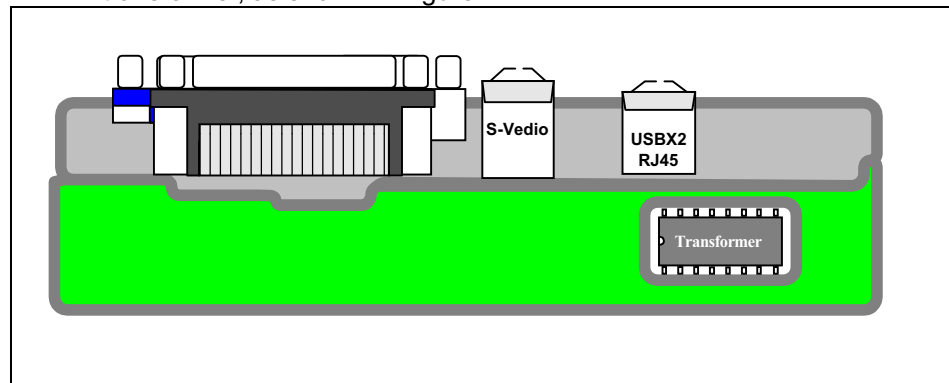

Figure 42. Power/ Ground Isolation for Transformer
- To protect EMI issue, forbid laying power and ground plane under the transformer, as shown in Figure 42.